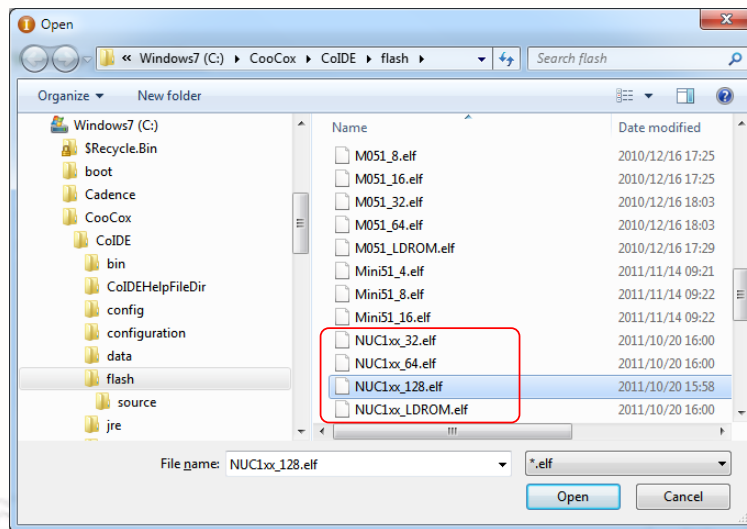

Figure 4-22 Set the Programming Algorithm File for CoCoX CoIDE
Step 5: To ensure the firmware will be downloaded to APROM or LDROM, select *NUC1xx_128.elf* or *NUC1xx_LDROM.elf* file (NUC100 series is used in this case) as shown in Figure 4-22; “32, 64, or 128” in the file name means the capacity of APROM. If no specific file is founded, specify the following path “C:\CooCox\CoIDE\flash”.